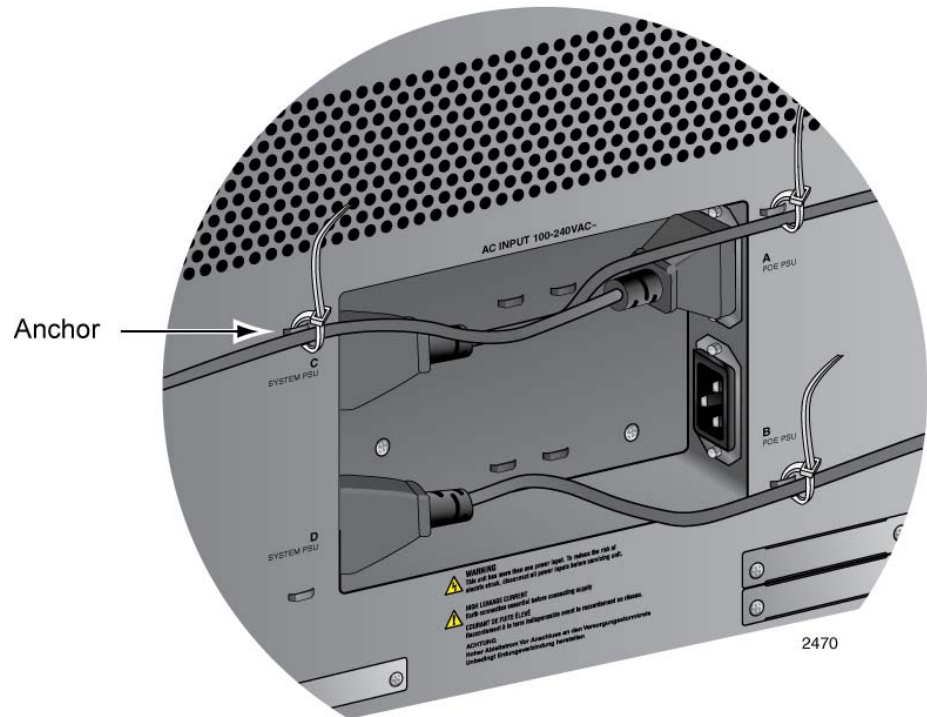

Figure 104. Securing the Power Cord for the AT-SBxPWRPOE1 Power Supply to an Anchor
3. Use the twist tie that comes with the power supply to secure the cord to an anchor on the chassis, as shown in Figure 104.